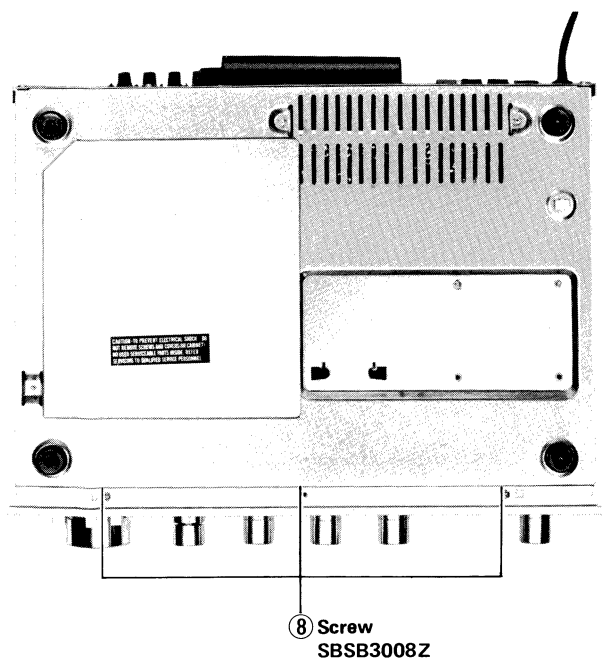

Fig. 5
3. Remove three screws item no. 8 located on the bottom of the front panel. See Fig. 5.